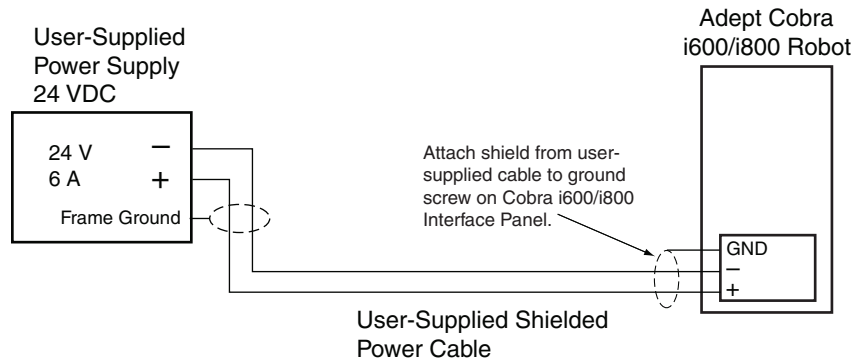

Figure 3-7. User-Supplied 24 VDC Cable
Shield Termination	Braided shield connects to ground terminal at both ends of cable. See Figure 3-7 on page 31 and Figure 2-3 on page 22 .
1. Connect one end of the shielded 24 VDC cable to your user-supplied 24 VDC power supply. See Figure 3-7. The cable shield should be connected to frame ground on the power supply. Do not turn on the 24 VDC power until instructed to do so in Chapter 4.